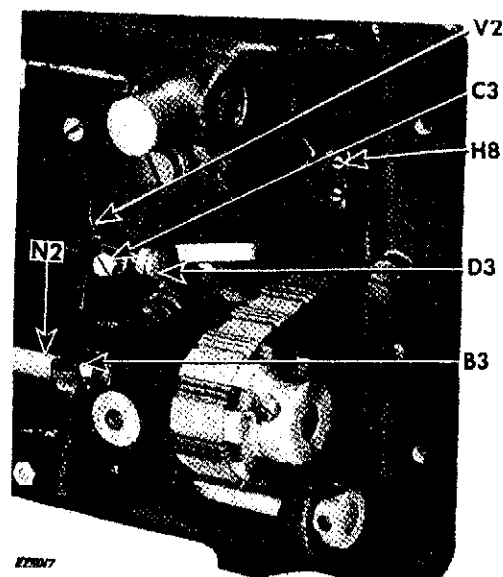

Fig. 44. Adjusting Stitch Regulator
The feed eccentric **B3**, **Fig. 44** is not adjustable for length of stitch, as it is positively set at the factory by location on a flat on the rotating hook driving shaft **N2**. See **Fig. 53**, page 39 for location of flats on shaft **N2**.
2. Loosen set screw **C3**, **Fig. 44**.
9. Binding in feed rock shaft connecting link **V2**, **Fig. 44**.
3. Loosen binding set screw **H8**, **Fig. 44** which fastens to stitch regulating handle.
5. Loosen screw **C3**, **Fig. 44** and remove eccentric stud **D3**.
3. Replace eccentric stud **D3** and securely tighten set screw **C3**, **Fig. 44**.
4. Insert stitch regulating handle into its recess and securely tighten screw **H8**, **Fig. 44** making sure that slotted opening **O8** of friction spring aligns with concave surface of regulator handle as shown in **Fig. 47**.